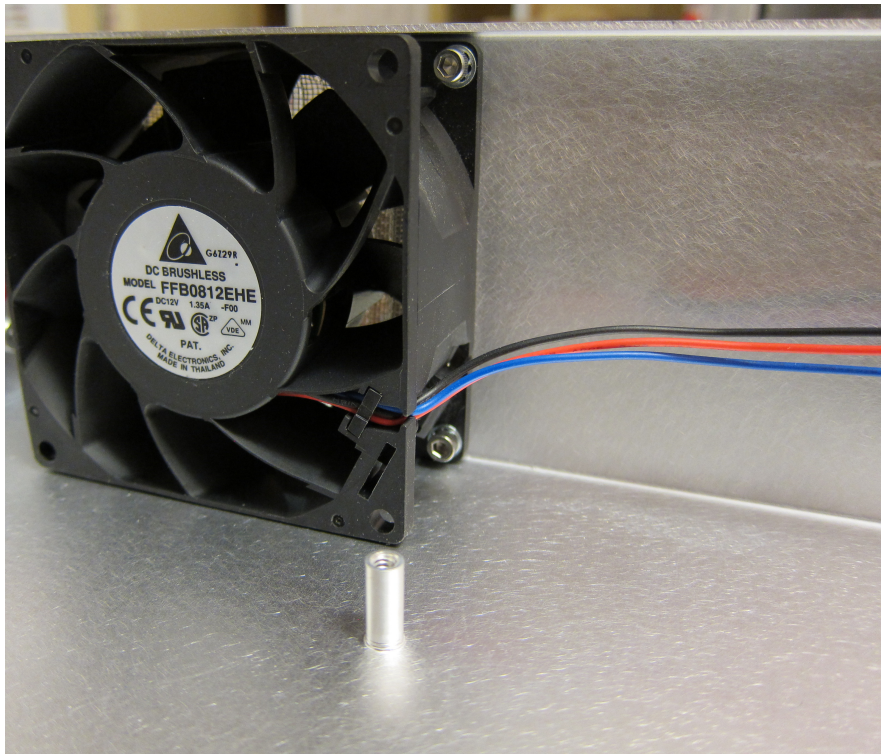

Figure 24: Fan installed in the chassis. Note the fan direction and the wire outlet orientation.
5. Use a ball head 7/64" hex key to install and tighten socket head screws. Fan orientation is illustrated in Figure 24.